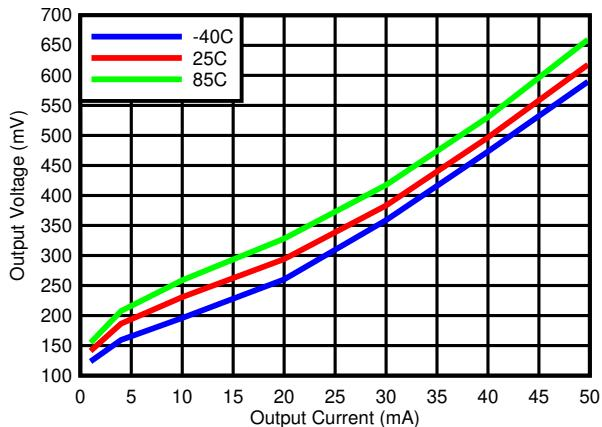
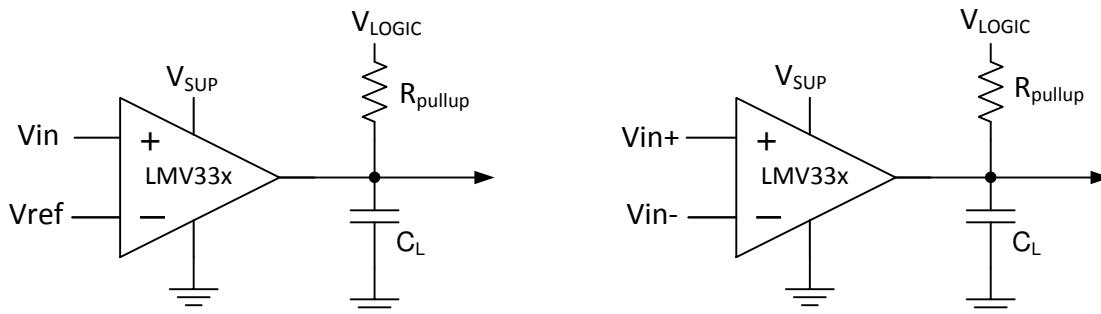

Figure 5-3. Output Voltage vs Output Current
Figure 7-1. Typical Application Schematic
The output consists of an open drain NPN (pull-down or low side) transistor. The output NPN sinks current when the negative input voltage is higher than the positive input voltage and the offset voltage. The  $V_{OL}$  is resistive and scales with the output current. Please see Figure 5-3 for  $V_{OL}$  values with respect to the output current.
Output current is determined by the pull-up resistance ( $R_{pullup}$ ) and Vlogic voltage, refer to Figure 7-1. The output current produces a output low voltage ( $V_{OL}$ ) from the comparator. In which  $V_{OL}$  is proportional to the output current. Use Figure 5-3 to determine  $V_{OL}$  based on the output current.
- $R_{CE}$  can be determine by taking the slope of Figure 5-3 in its linear region at the desired temperature, or by dividing the  $V_{OL}$  by  $I_{out}$